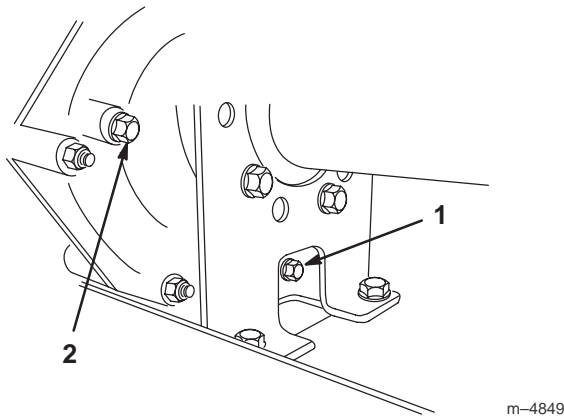
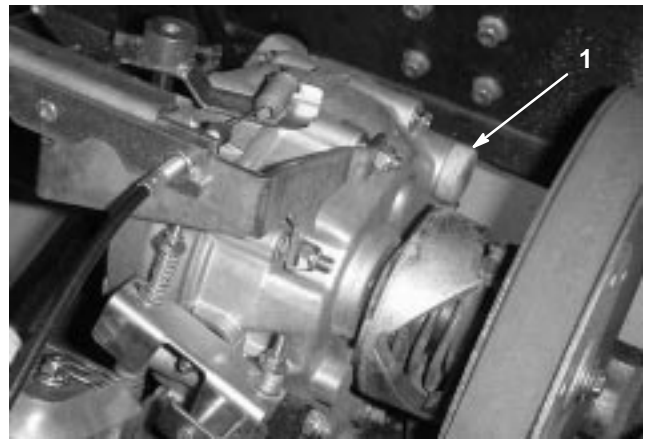

Figure 41
Figure 42
- Remove the drain plug from the right side of the reservoir (Fig. 41) and let the fluid flow into a drain pan. Install and tighten the plug when the fluid stops draining.
- Fill the reservoir (Fig. 42) with approximately 1-1/2 qt. (1.4 liters) of SAE 10W30 motor oil or until the oil level is at the bottom of the level indicator hole (Fig. 41).